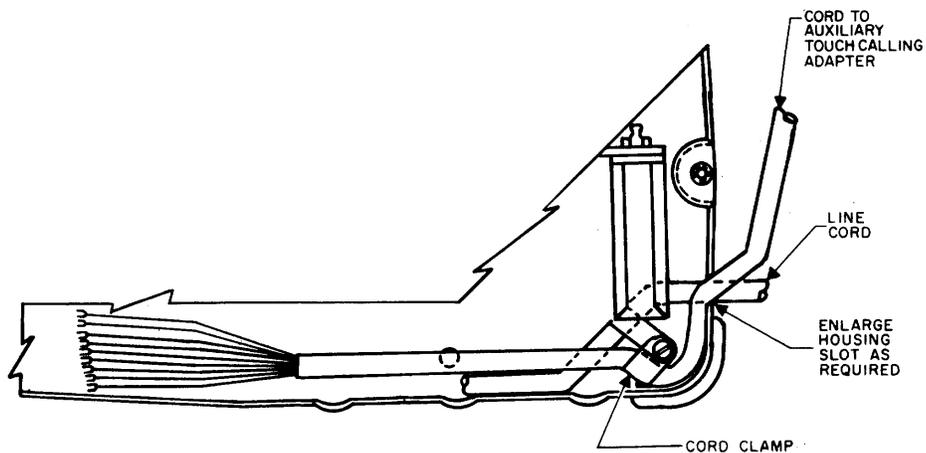
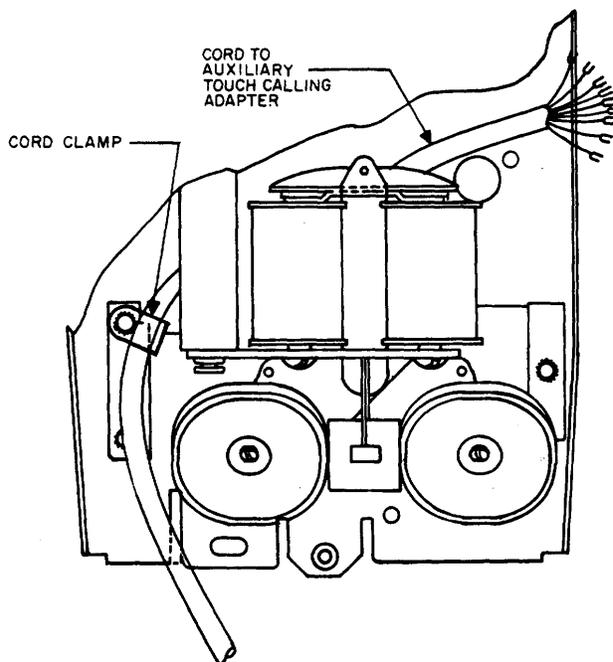

Figure 5. Routing and Securing Cord from Auxiliary Touch Calling Adapter to Type 80 Telephone.
Figure 8. Routing and Securing Cord from Auxiliary Touch Calling Adapter to Type 90M Telephone.
3.01 To permit entrance of the interconnecting cord, it may be necessary to establish or enlarge the cord entry slot in the telephone housing. A clamp is supplied with the adapter to secure the cord within the set if no other retention is provided. Figures 5 through 15 and 17 through 20
- (a) Route and secure the adapter's cord on the Type 80 (Figure 5) or 90M (Figure 8) telephone.